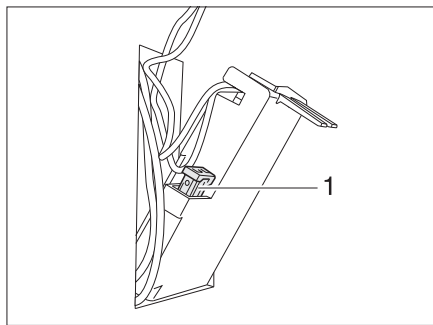

Fig. 289 Fuse for the Thetford toilet
- Replace the fuse (Fig. 289,1).